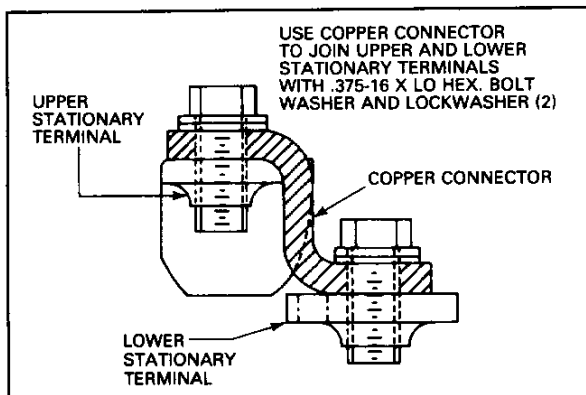

Fig. 4 Connecting Upper and Lower Stationary Terminals
- Remove the three (3) electro-mechanical trip units.
- Place the 2.0" x 2.38" x .25" "Z" copper connector over top of the upper stationary and lower stationary terminals, lining up the holes. Secure connector using .375-16 x 1.0 hex bolt, washer and lockwasher. See Fig. 4.